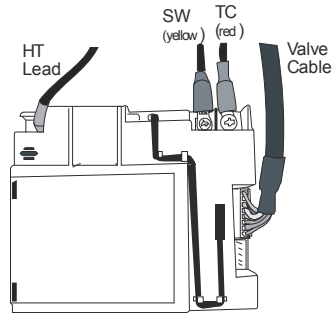

Figure 39
2. Carefully pull out the valve cable (see **Figure 39**).
3. Disconnect the SW cable (with yellow sleeve) from the receiver (See **Figure 39**).
2. Gently pull out the HT lead and the valve cable from the receiver (see **Figure 39**).